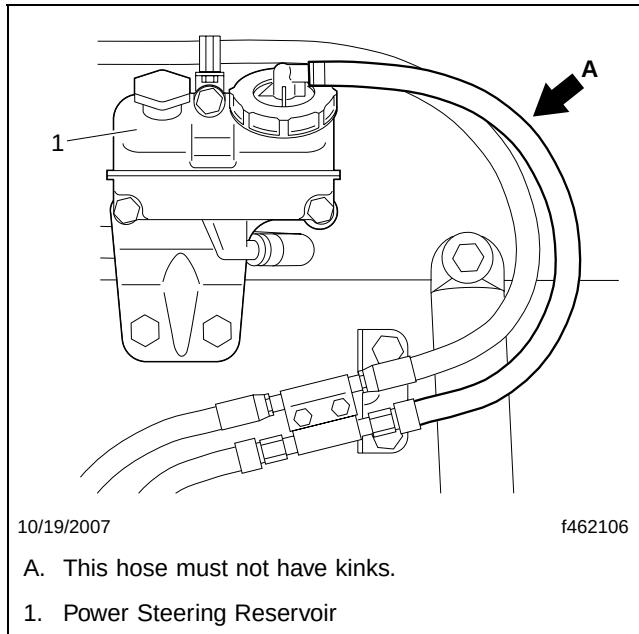

Fig. 9, Hose Routing From Power Steering Reservoir
45. Connect the return hose between the reservoir and formed line. The hose should have no necking or kinks that may impede the return fluid flow. See **Fig. 9**.